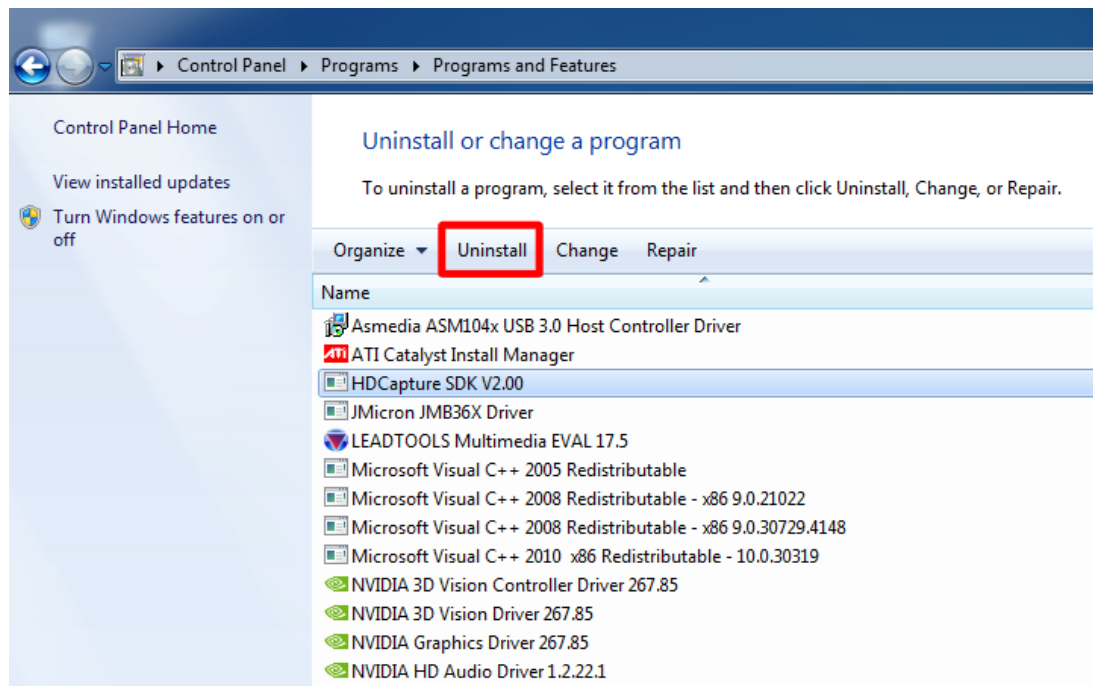

Figure 1-15: Uninstall HDCapture SDK
Step 2: Select HDCapture SDK and click the **Uninstall** button to uninstall the HDCapture SDK (**Figure 1-15**).